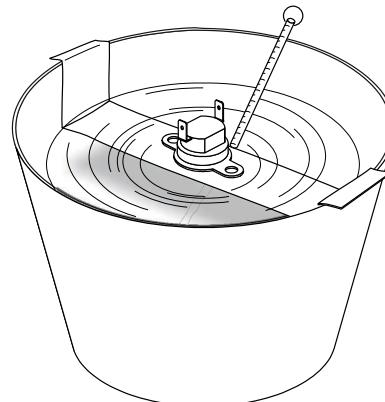

Figure 3-77. Testing the Temperature Switch
10. See **Figure 3-77**. Immerse the sensing tip of the switch in oil, along with a suitable thermometer.